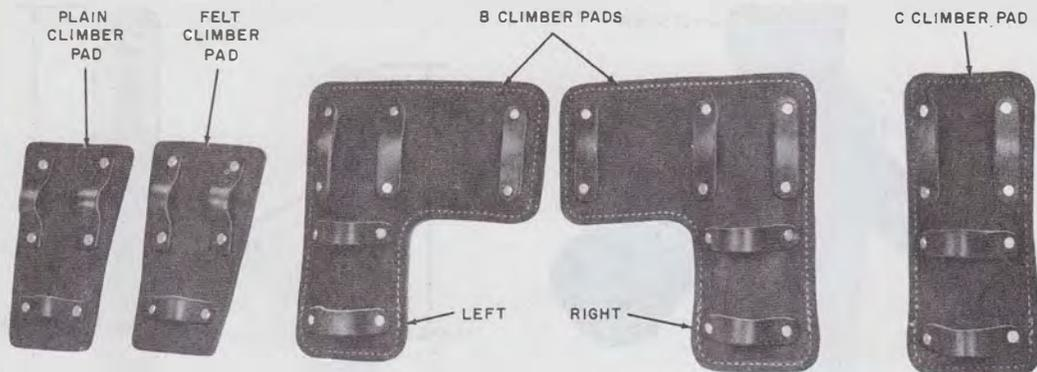

Fig. 4—Pads
**2.09** Pads are used with climbers to protect the shins and calf of the leg against irritation by rubbing when the climbers are strapped to the legs. Plain leather, felt lined, and cushioned pads are available as shown in Fig. 4. Cushion pads are coded B climber pads (angle) and C climber pads (straight). The plain and felt lined pads are generally used when wearing boots that cover the calf of the leg. The wrap-around design of the B climber pads furnishes additional protection at the shins. Occasionally the top edge of a new pad may initially dig into the leg in use. This can be overcome by dulling the top edge by rubbing with a rounded metal tool.